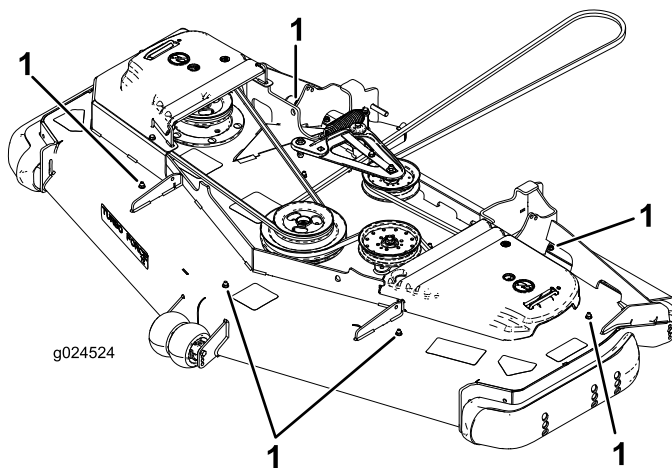

Figure 1
- For 60-inch decks, remove the 6 hex-socket screws (5/16-18 x 3/4 inch) and flanged nyloc nuts plugging the exposed mounting holes in the deck (Figure 1).
6. Using one carriage bolt (3/8-16 x 7/8 inch) and one flange nut (3/8-16), install the correct kicker baffle to each chamber (Figure 1).